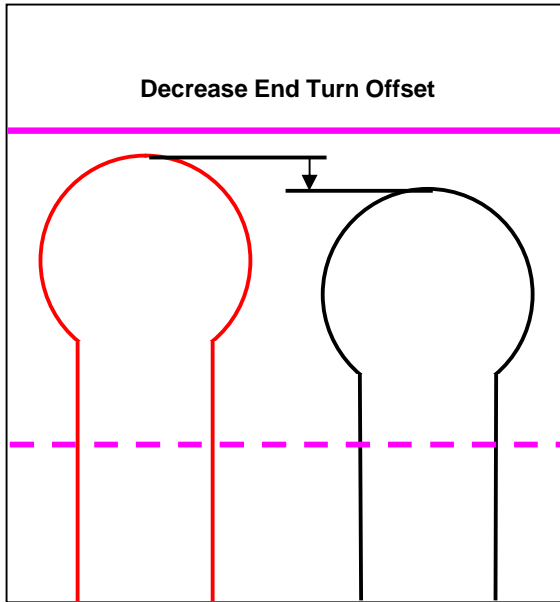

Figure 8
- Decrease End Turn Offset (figure 8)
- Use an End Turn Offset to shift the turn into the field (see Figure 8)